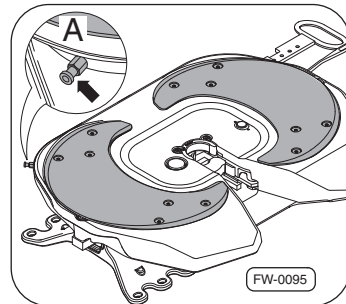

Fig. 21 · Lubricating point on the lock SK-S 36.20 W/SK-S 36.20 DW
- Thoroughly lubricate the lock around the grease nipple Fig. 21, –arrow A– on the edge of the plate and thereafter regularly **every 10,000 km**.
- 1 Thoroughly lubricate the lock around the grease nipple Fig. 21, –arrow A– on the edge of the plate and thereafter regularly **every 10,000 km**.